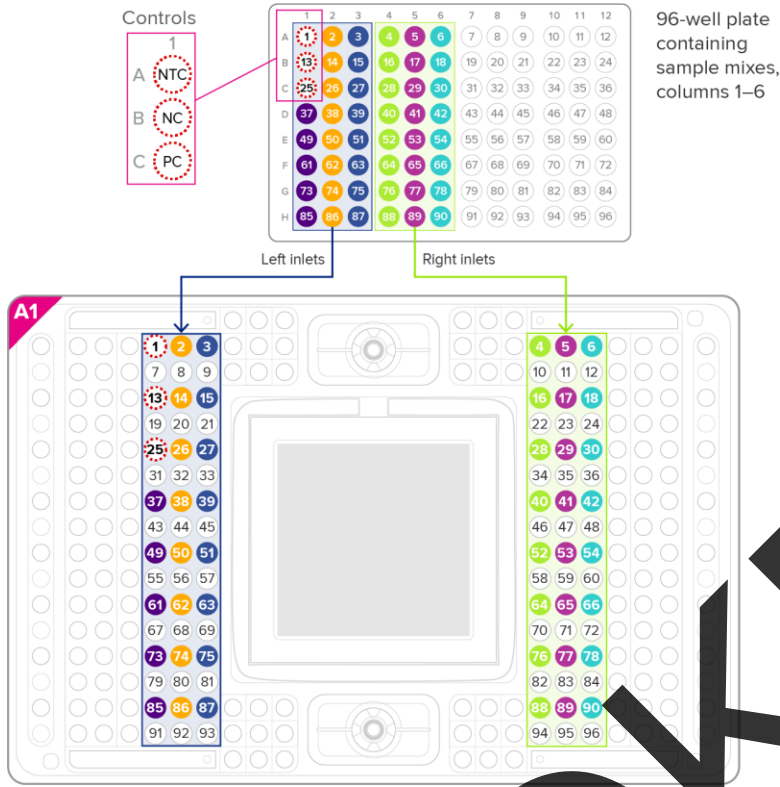
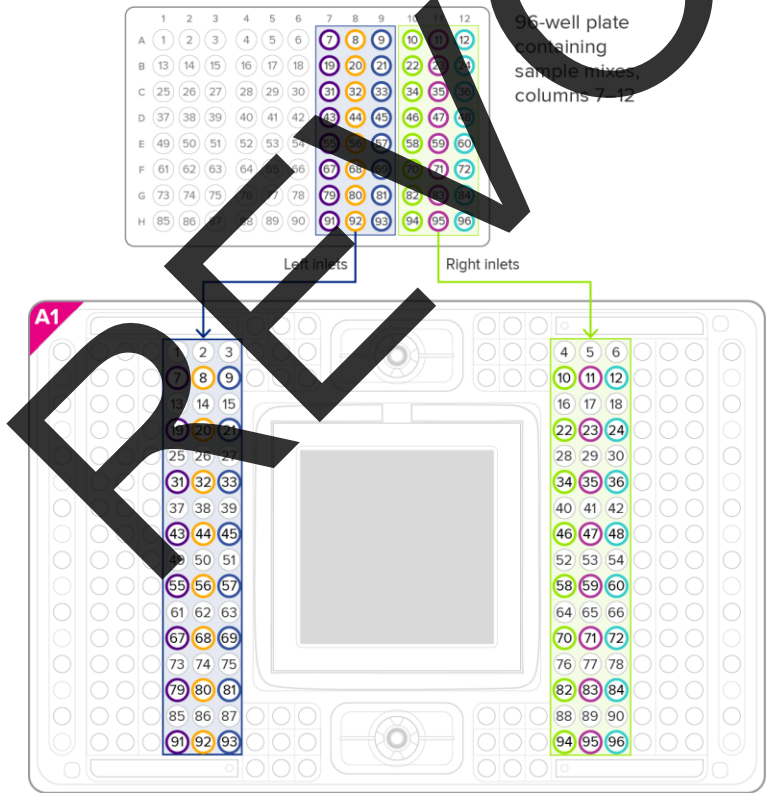

Figure 10. Sample mix pipetting map for sample plate columns 1-6
Figure 11. Sample mix pipetting map for sample plate columns 7-12
- 6 Use an 8-channel pipette to transfer the entire volume (16–18 μL) of each sample mix into the sample inlets, as shown in Figure 10 and Figure 11 on page 26.